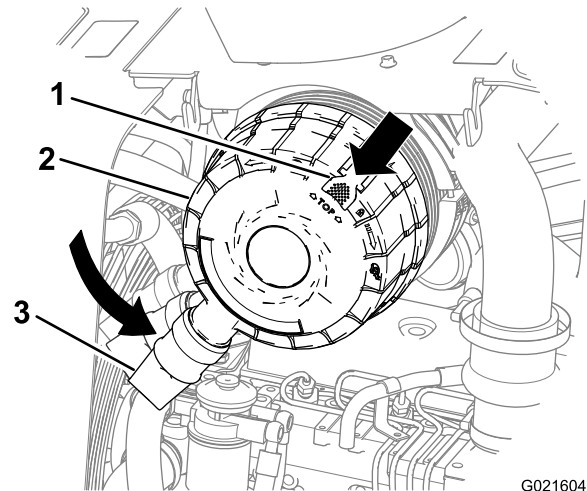

Figure 48
3. Rotate the cleaner cover counterclockwise so that the dust cap is at the 7 o'clock position (Figure 48).